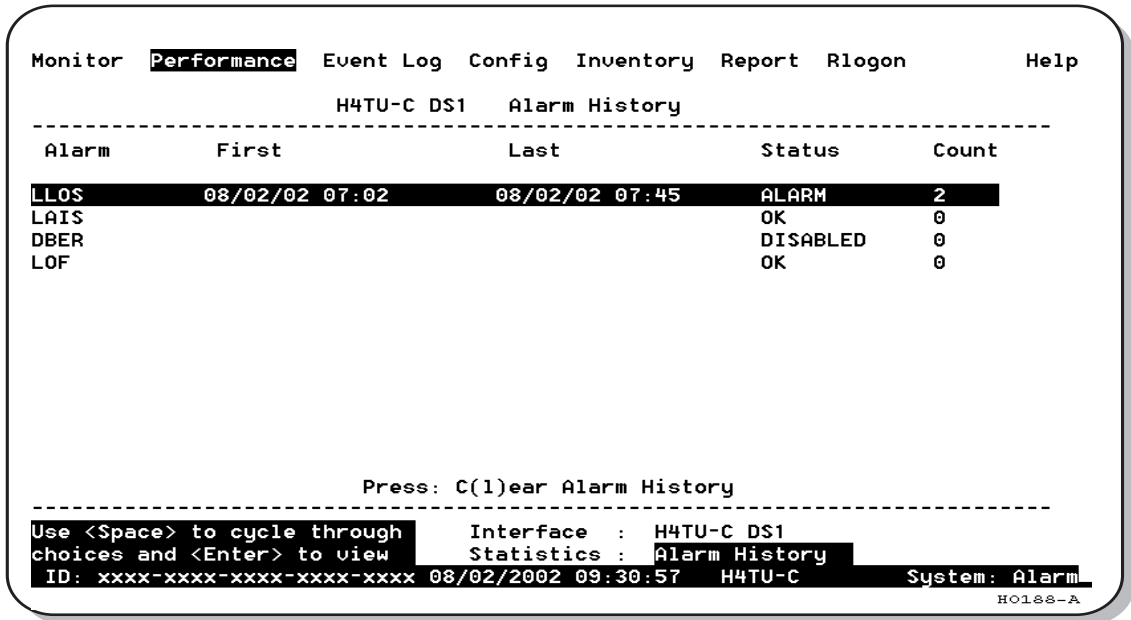
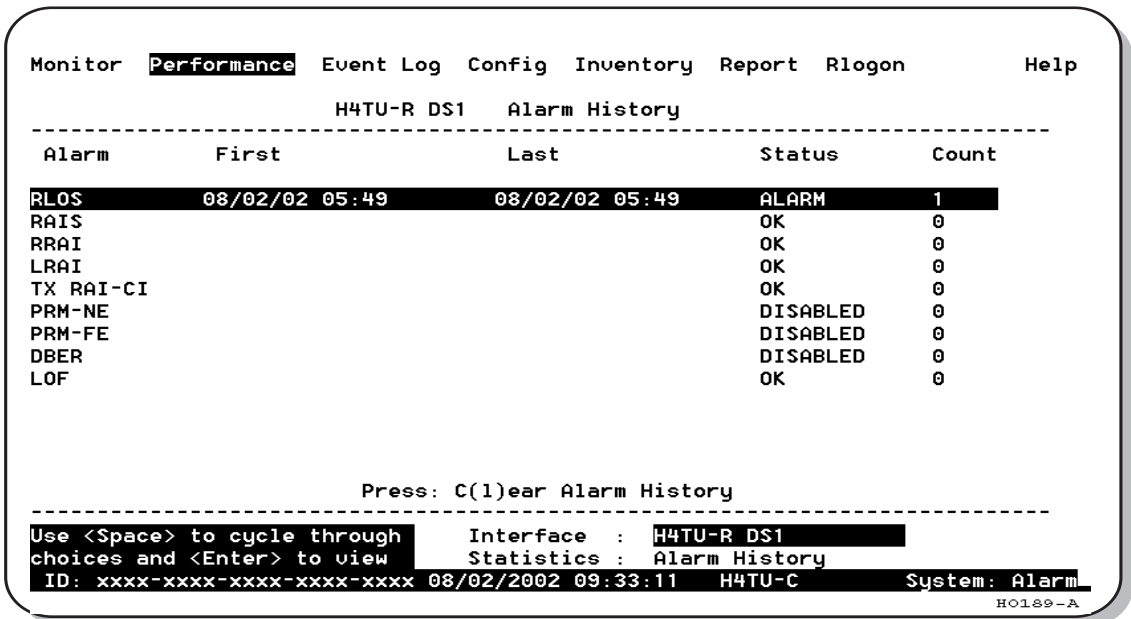

Figure 21. H4TU-C DS1 Alarm History Screen
Figure 22. H4TU-R DS1 Alarm History Screen
- Alarm statistics for the DS1 interfaces (Figure 21 on page 31 and Figure 22 on page 31) or HDSL4 interfaces (Figure 23 on page 33) on a continuous basis.
The Alarm History screen reports on a continuous basis the DS1 statistics for the H4TU-C (Figure 21 on page 31) and the H4TU-R (Figure 22 on page 31). The types of alarms reported are described in Table 10 on page 30.
H4TU-C DS1 Alarms (see Figure 21 on page 31)
H4TU-R DS1 Alarms (see Figure 22 on page 31)